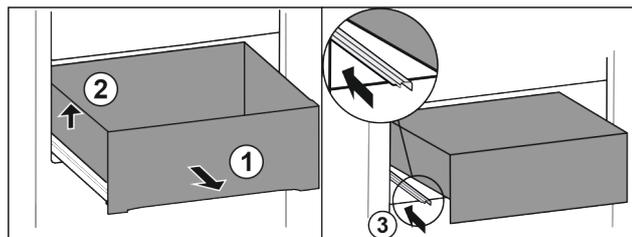

Fig. 14
- ▶ Pull drawer out completely Fig. 14 (1).
- ▶ Lift drawer on the left Fig. 14 (2).
- ▶ Insert left rail Fig. 14 (3).